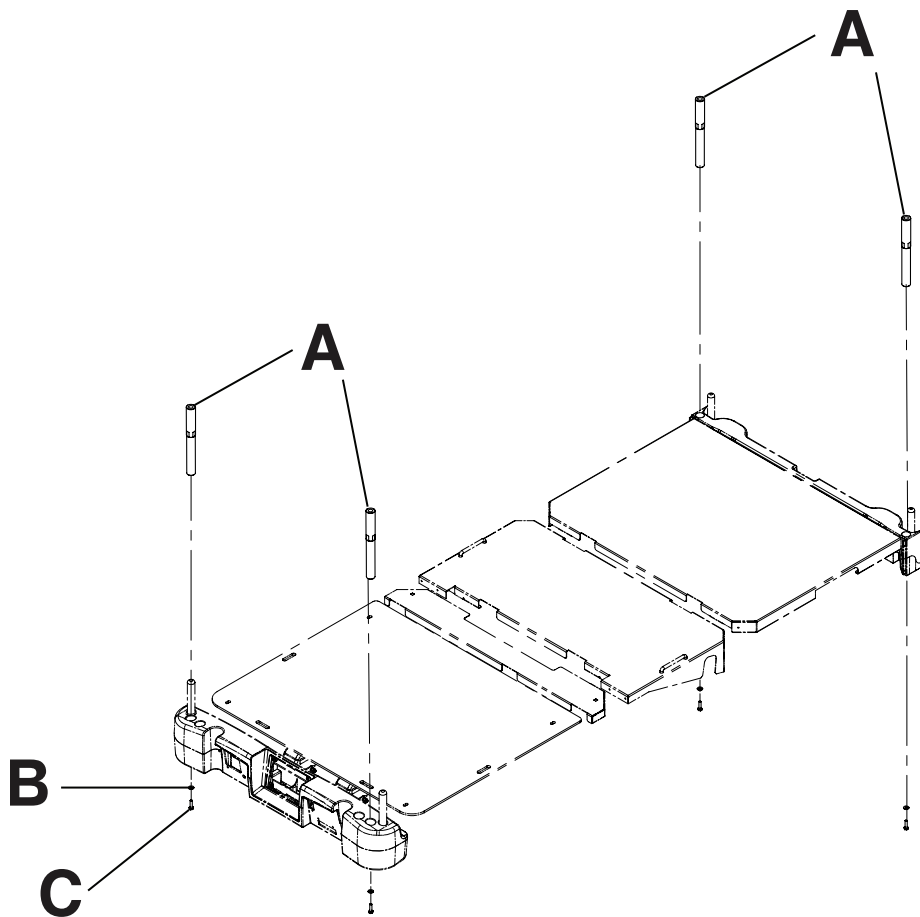

Figure 135: Traction sleeves
1. Install the traction sleeves into the sockets at the head end and foot end of the product (A) (Figure 135 on page 114).
2. Using a 7/16 in. combination wrench, install one washer (B) and one bolt (C) to secure the traction sleeve in the socket (Figure 135 on page 114).